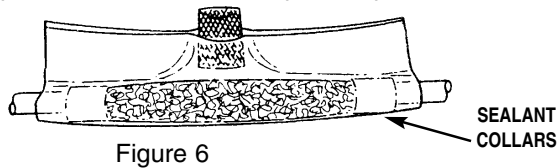

Figure 6
- e. Press adhesive sides together around collars leaving opening at the top for the funnel. (Figure 6)